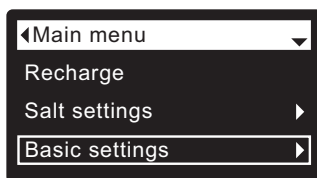

FIG. 54
1. From any of the rolling status screens, press the SELECT (O) button to display the **Main menu**.
2. Press the DOWN (▼) button to scroll through the menu options until **Basic settings** is highlighted (See Figure 54).